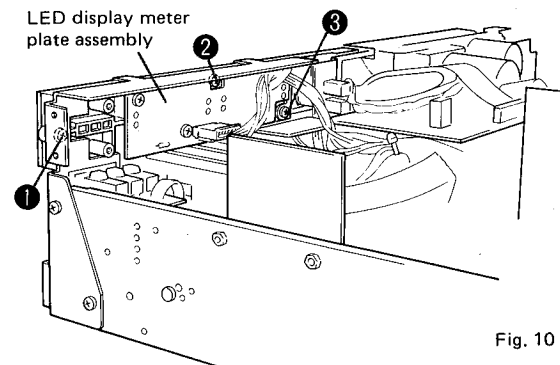

Fig. 10
5. Remove the screws 1 to 3 in Fig. 10 and then remove the LED display meter plate assembly.